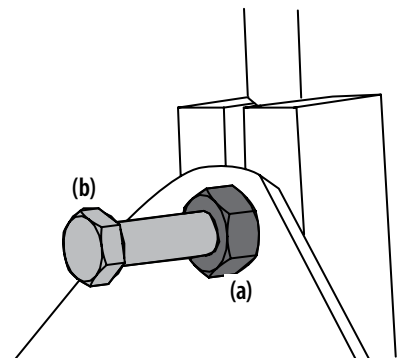

Figure 5-17
- Locate the parking brake adjustment nut near the engine. See Figure 5-17.
- Loosen the lock nut (a) and then tighten the bolt (b) to adjust the parking brake. Turn the bolt until it touches, then back it off a ¼-turn. See Figure 5-17.